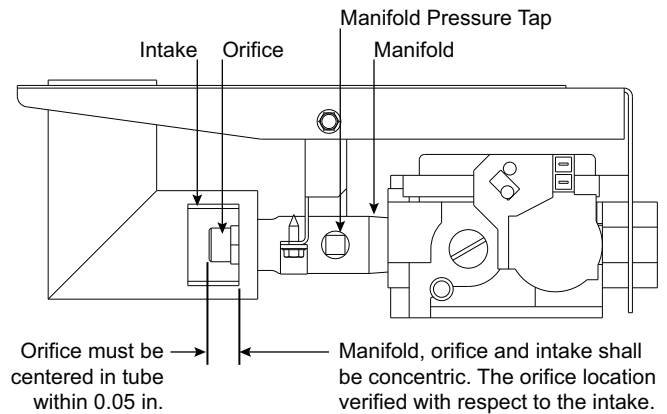

Fig. 53 — Orifice Projection and Placement
Refer to Fig. 53 for projection and placement dimension for orifice face to manifold tube. The manifold, orifice and intake shall be concentric. The orifice must be centered in the intake tube.
2. If factory orifice has been removed, check that each orifice is tight at its threads into the manifold pipe and that orifice projection does not exceed maximum value. See Fig. 53.
2. Remove manifold pressure tap plug from manifold and connect pressure gauge or manometer. (See Fig. 53.)
9. Turn off unit, remove pressure manometer and replace the manifold pressure tap plug. (See Fig. 53.)
Ensure each replacement orifice is tight as its threads into the manifold pipe and the orifice projection does not exceed maximum value. See Fig. 53.